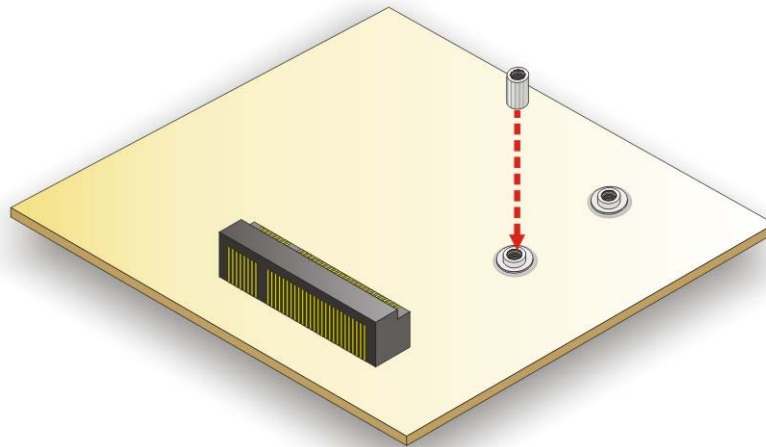

Figure 3-13: Installing the Standoff
Step 5: Install the previously removed standoff to the screw hole for the WLAN module (Figure 3-13).